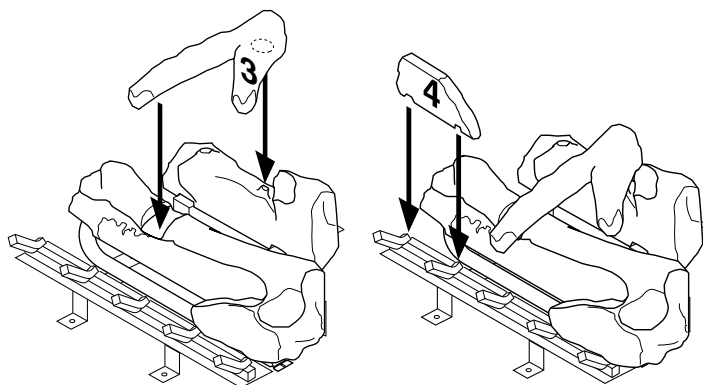

Figure 56 - Installing Log No. 3 Figure 57 - Installing Log No. 4
3. Place log #3 (crossover log) onto the rear and front logs. Make sure it is seated properly into the notch on the front log and over the raised triangular portion of the rear log as shown in Figure 56.